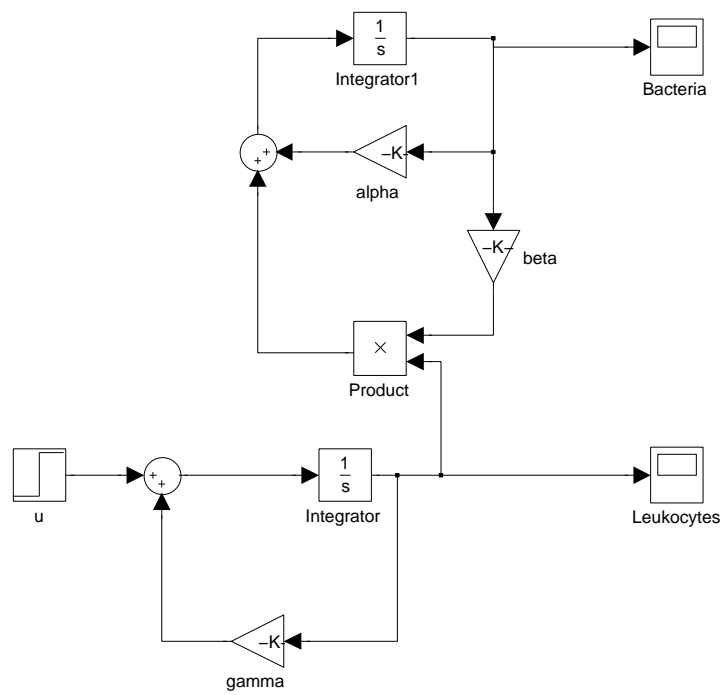

Figure 2.1 Simulink model for the Predator-Prey system
2.6 The Simulink model can be seen in Fig. 2.1.